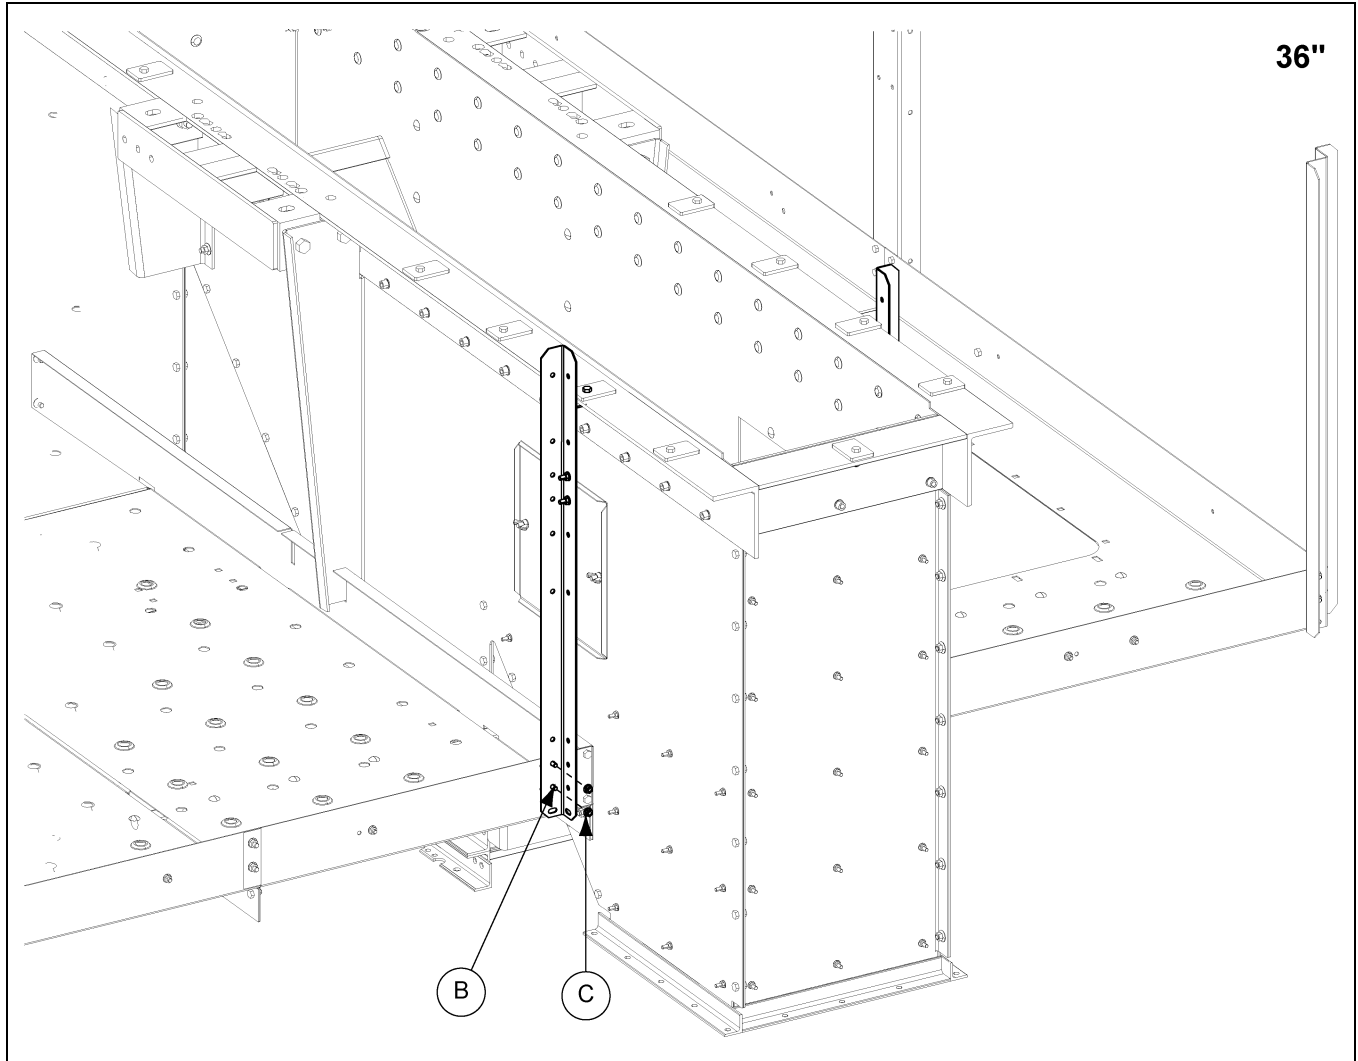

Figure 10I
3. Attach side post to decking using 5/16" x 3/4" bolts (S-6606) (B) and nuts (H). (See Figure 10I.)